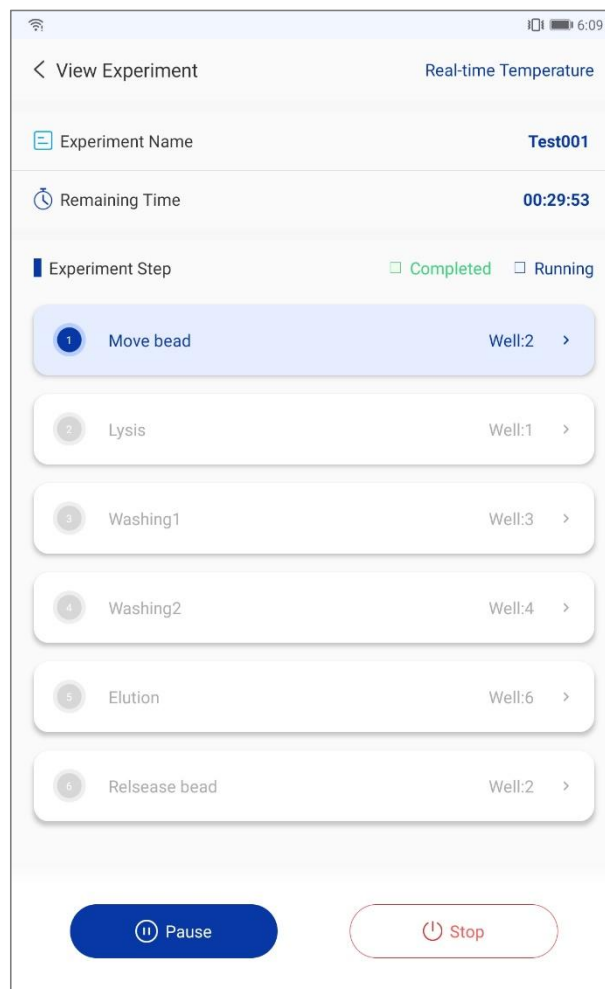

Figure 5-5. Experiment Interface - Run Experiment
4. **Run Test:** select any experiment on the experiment interface and click < **Run** > to enter the Experiment running interface, as shown in figure 5-5.